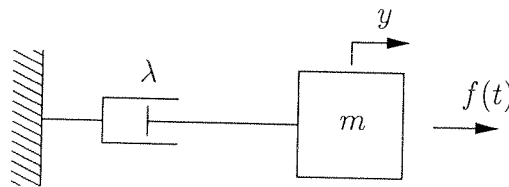

Fig. 9
- (b) Figure 9 illustrates a mass  $m$  at position  $y$  connected to a fixed wall by a viscous dashpot of rate  $\lambda$  and acted on by a force  $f(t)$ .